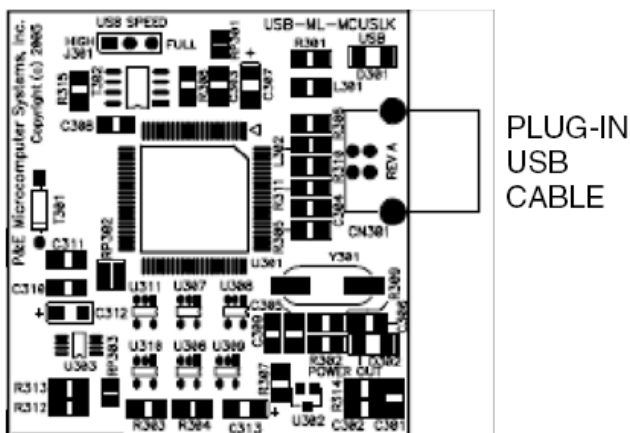

Figure 5. Installation of USB Cable
- 3) Connect the other end of the USB cable to the USB connector on the project board. Figure 5 illustrates the USB connector on the project board for the BDM Multilink pod interface to power, program, erase, and debug the application module board.